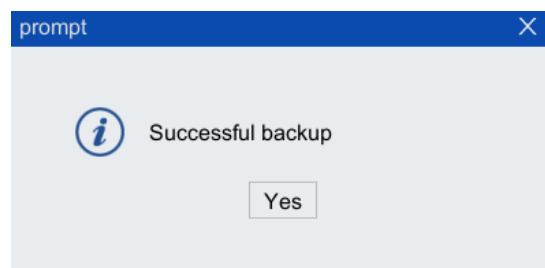

Figure 7-5 "Backup Succeeded" dialog box
Step2. Then select the position to save. By default, it is saved in "Local TP" (that is, saved to "Backup" folder of the teach pendant). The user can also save it to "USB" (the root directory of USB on the teach pendant), click <Yes> button, "Successful Backup" dialog box in Figure 7-5 will pop up, as shown in. Then click <Yes> button to complete the backup.